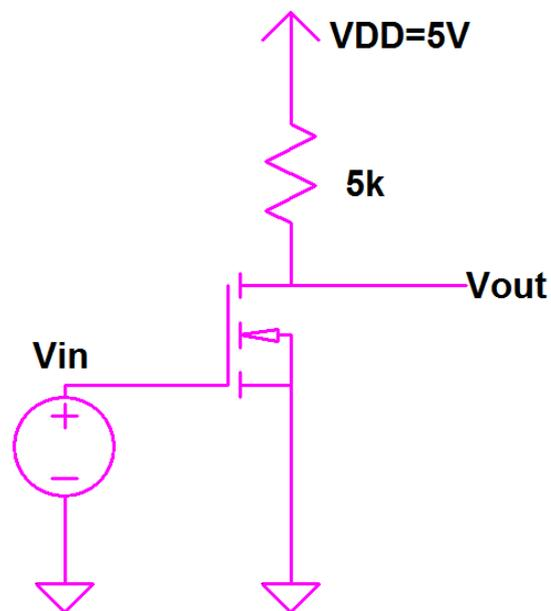

Fig. 5: NMOS inverter circuit schematic
- 7) Consider the NMOS inverter circuit in Fig. 5, where $K=1 \text{ mA/V}^2$, $V_t=1 \text{ V}$ for the NMOS transistor. Sketch the expected **VTC** by calculating the output voltage V_{OUT} for $V_{IN}=0, 1, 2, 3, 4,$ and 5 V . Find also **noise margins**.